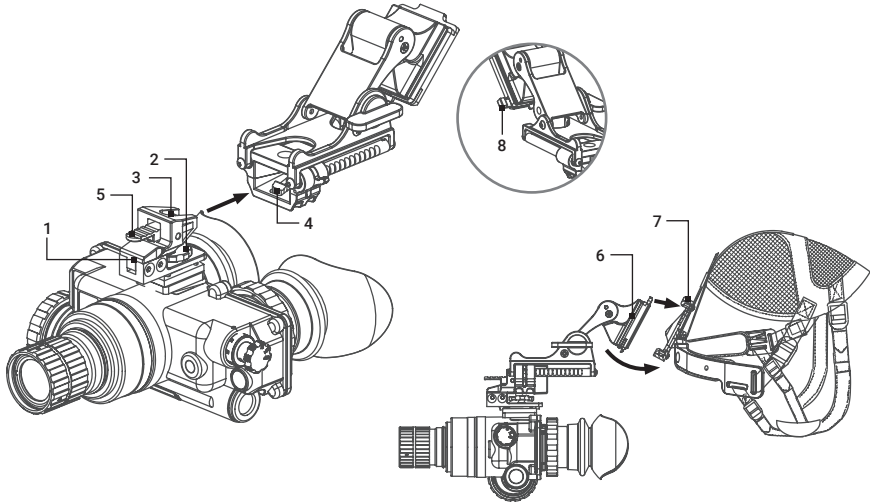

FIGURE 2-2. MOUNTING WOLF-7 PRO TO HEADGEAR ASSEMBLY
4. Install the transfer adapter (Figure 2-2, 1) to mounting rail on the goggles body and fix adapter with the screw (2).